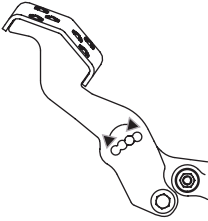

Figure 42
3. Position the pedal to the optimal position based on operator preference (Figure 42).